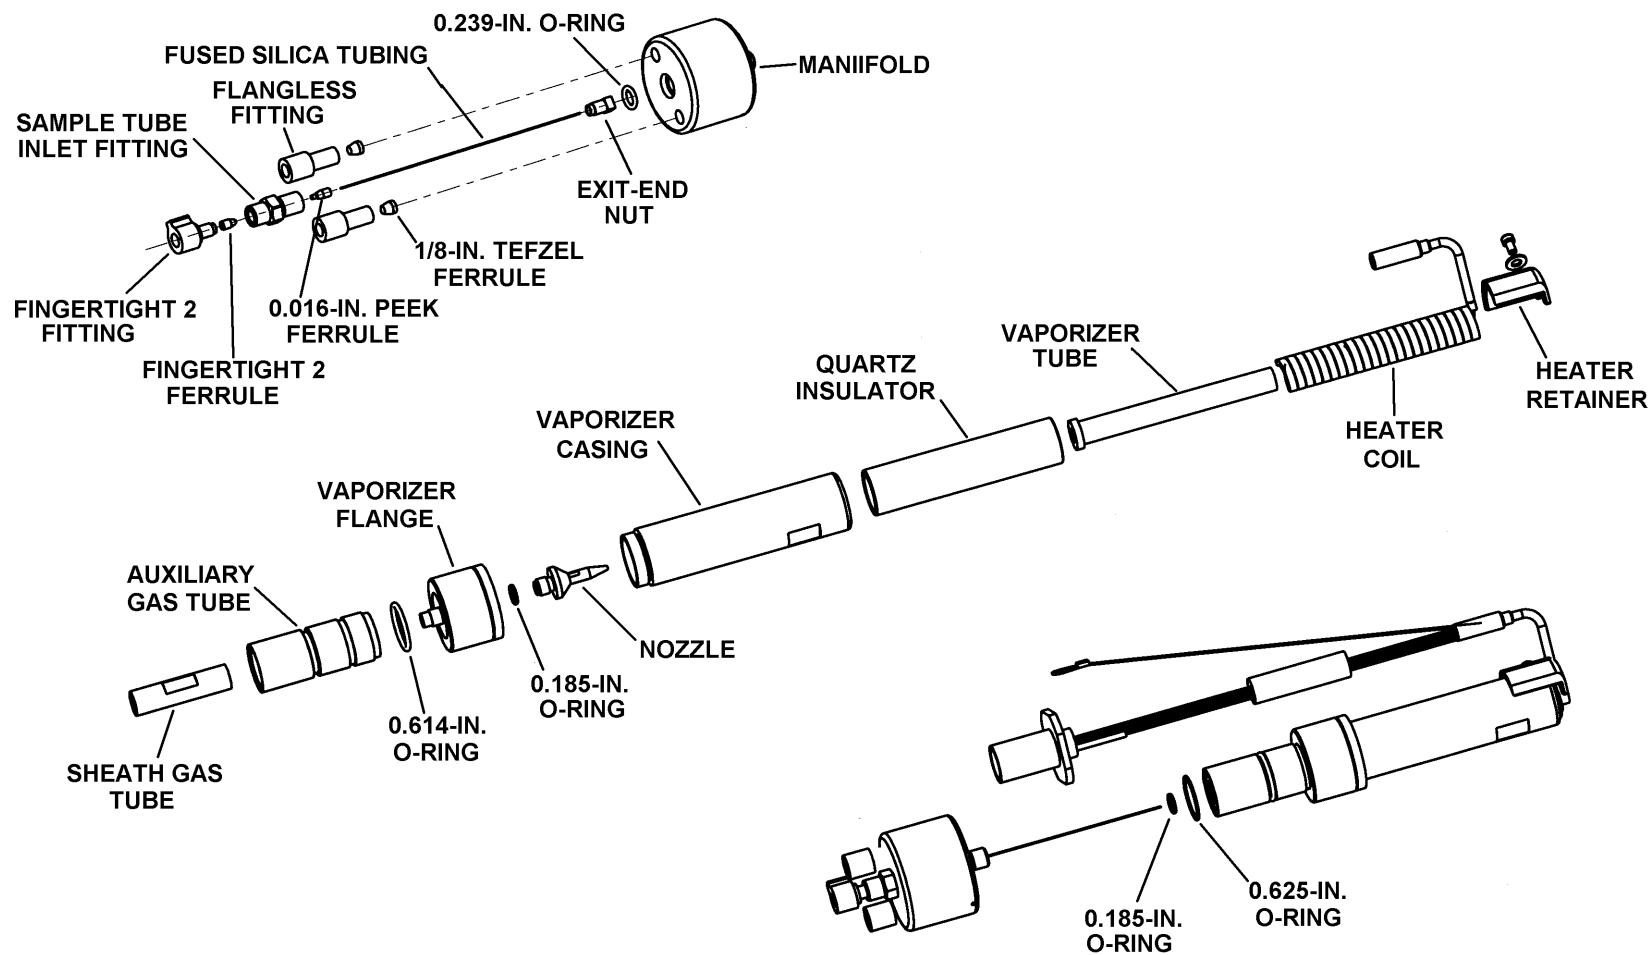

Figure 5-4. Exploded view of the APCI probe
1. Complete the disassembly of the APCI probe as follows. See Figure 5-1 on page 5-11 and Figure 5-4 for the location of the components.